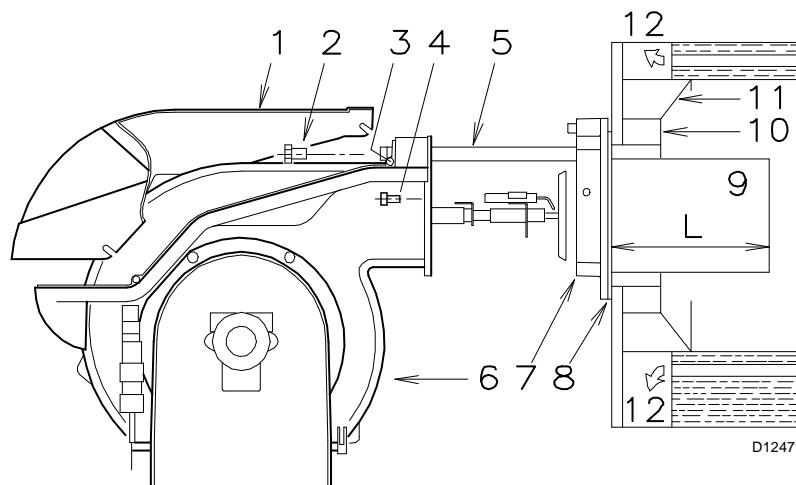

Fig. 7
For boilers having a water-cooled front the refractory fettling 10)-11) (Fig. 7) is not required unless it is expressly requested by the boiler manufacturer.
Secure flange 7) (Fig. 7) to the boiler plate interposing the supplied gasket 8) (Fig. 7). Use the 4 screws provided after having protected the thread with antiscruffing products.
- Retract the burner on its slide bars as shown in (Fig. 7 pag. 10).